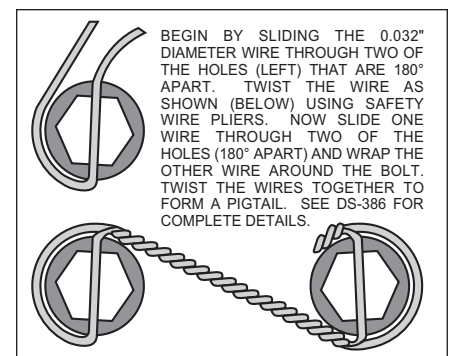

Figure 6. Safety Wire Diagram
- Slide the caliper mounting bracket kit assembly (1) onto the housing flange and then insert the axle assembly through the center hole of the caliper mounting bracket assembly (1). Align the bearing retainer (2) with the four holes inside the bracket assembly (1) and secure using the stock Original Equipment Manufacturer (OEM) bolts and nuts. Stock OEM hex nuts that retain the caliper mounting bracket assembly (1) and retainer (2) should be on the wheel side of the bracket. Apply red *Loctite*® 271 to the stock OEM bolt threads and torque to OEM specifications. Make sure the heads of the caliper mounting bracket assembly (1) insert nuts are **FACING OUTWARD TOWARDS THE WHEEL**.
- Align the correct hole pattern in the rotor (3) with the stud pattern on the axle flange. **NOTE:** Some OEM and after market axles come with stud sizes larger than 0.50” diameter. Verify stud size and have a qualified machine shop drill the bolt circle of the rotor to the correct stud size, if necessary. Slide the rotor (3) over the wheel studs covering the mounting bracket assembly (1) and against the axle flange face.
- NOTE:** Please reference the caution statement at the beginning of the assembly instructions. **WITH THE BLEED SCREWS POINTING UP**, mount the caliper (4) over the rotor (3) and onto the caliper mounting bracket (1) using lock washers (5) and mounting bolts (6). View the rotor through the top opening of the caliper. The rotor should be aligned in the center of the caliper. If not, adjust the caliper by using 0.032 inch shims (7) by placing them between the caliper mounting bracket (1) and the caliper (4). Apply red *Loctite*® 271 to the mounting bolt threads (6), torque to 30 ft-lb. Safety wire the caliper mounting bolts (6) using standard 0.032 inch diameter stainless steel safety wire as shown in Figure 6. Please refer to Wilwood’s data sheet DS-386 (available at www.wilwood.com/pdf/ds386.pdf) for complete safety wire installation instructions.
- Position the Wilwood disc brake pads (8) into the caliper (4) and fasten with cotter pin (9). Steel backing plate side of brake pad should face the caliper pistons.
- NOTE:** Clevis and cable kits which attach to the parking brake assembly are not included in the Wilwood parking brake kit. Wilwood offers a generic style parking brake cable kit, P/N 330-9371 for this application which can be ordered separately from your local Wilwood dealer or by calling Wilwood customer service at (805) 388-1188.
- Before final installation of the wheel, install a couple of lug nuts and adjust the parking brake shoes outward (using a drum shoe adjustment tool available at your local auto parts store) while spinning the rotor/hat (3) until a slight drag is felt again the hat/drum.